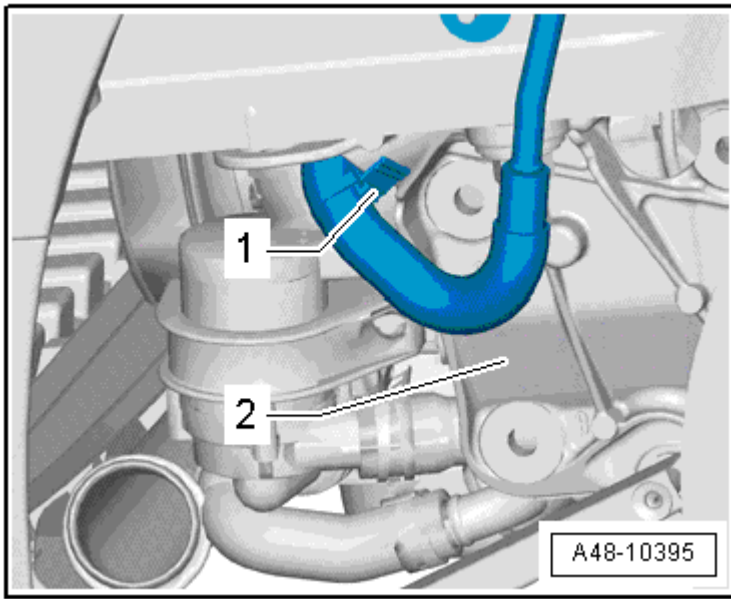
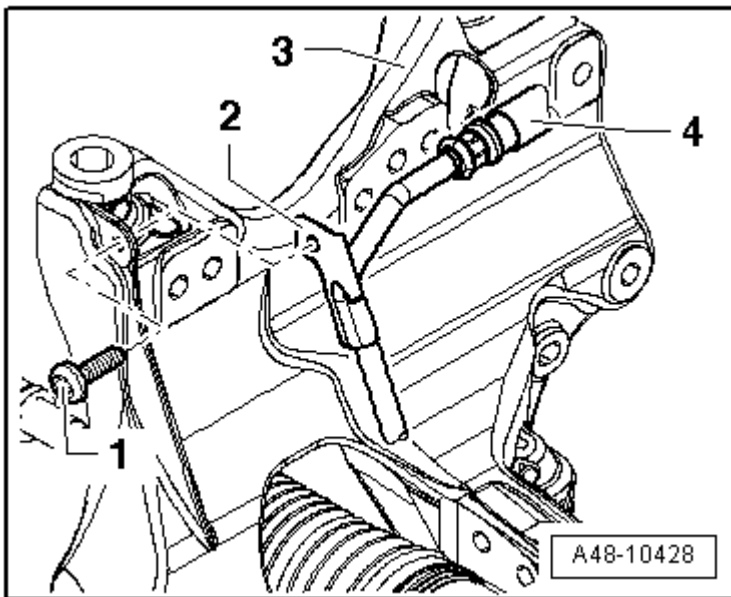

Fig. 26: Return Line Bracket To Subframe
Fig. 27: Return Line To Subframe
10. Return line to the subframe, refer to **Fig. 27**, return line bracket to the longitudinal member, refer to **Fig. 26**